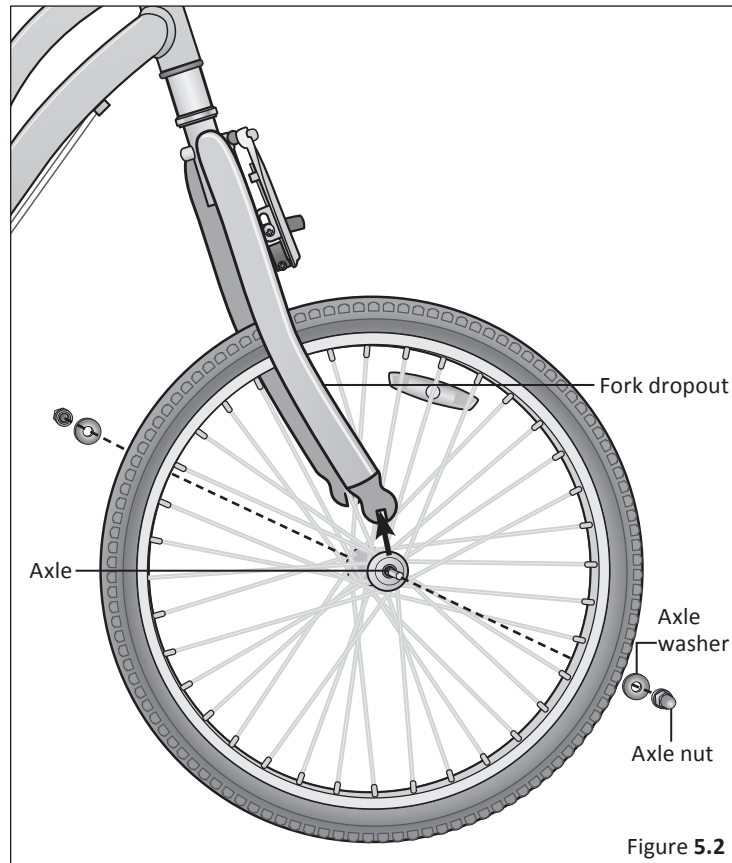

Figure 5.2
2. A hollow axle with a shaft **skewer** running through it which has a nut on one end and a fitting for a hex key, lock lever or other tightening device on the other (through bolt, **Figure 5.2**)